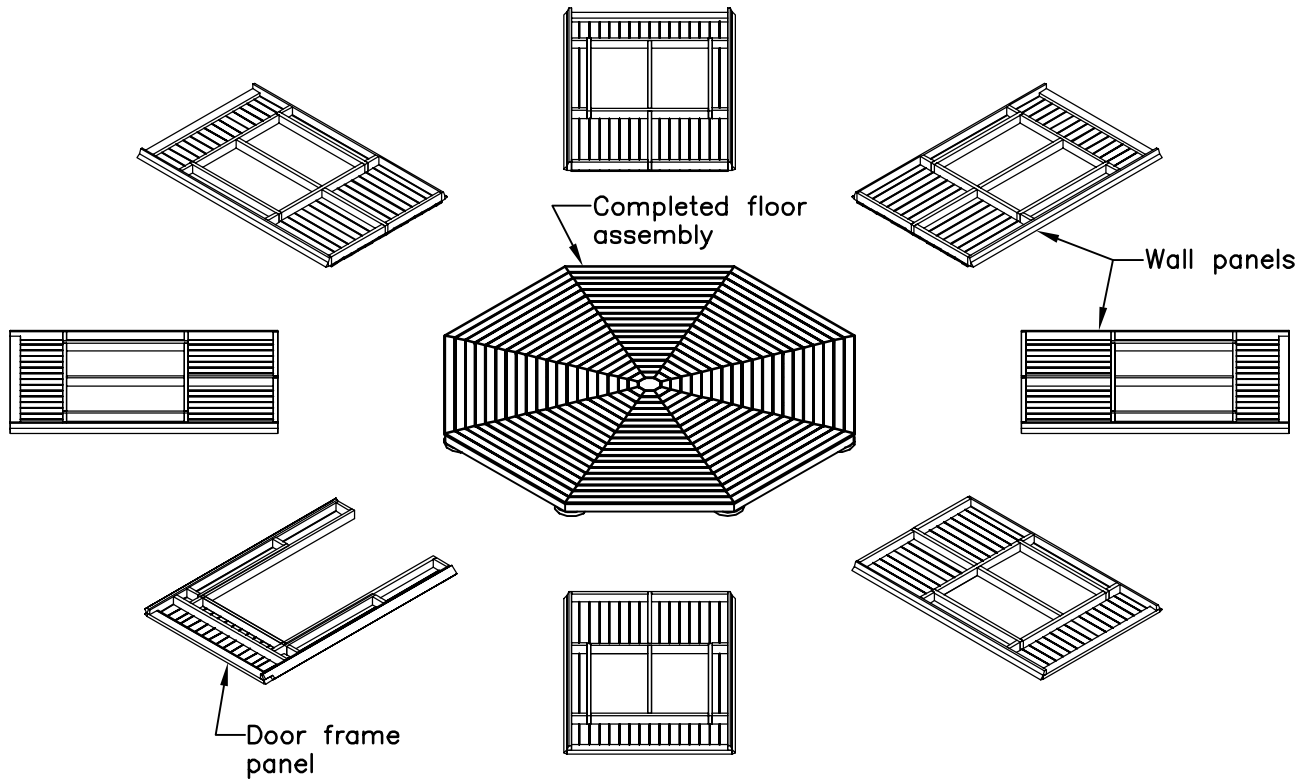

FIGURE S9
- Figure S9 illustrates the completed wall panels that are ready for erection. For Octagon; there are 7 wall panel sections and one door frame panel with door pre-hung on it. For the Hexagon; there are 7 wall panel sections and one door frame panel with door pre-hung on it. See the following pages on how to assemble the wall panels together.